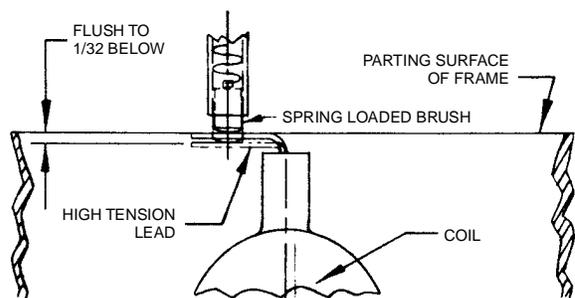

Figure 7.7
- C. Position the coil high tension lead flush to 1/32 inch below the parting surface of the magneto frame. (See Figure 7.7.)